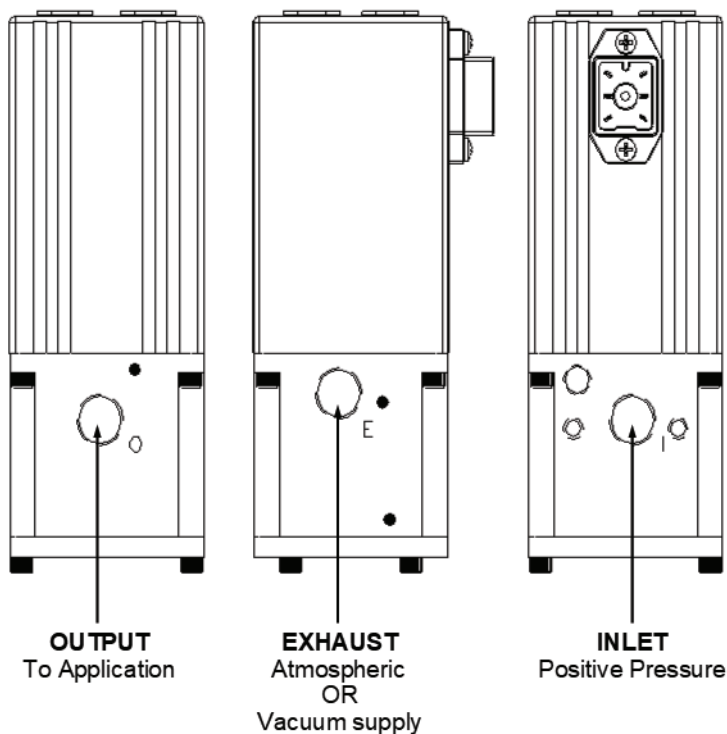
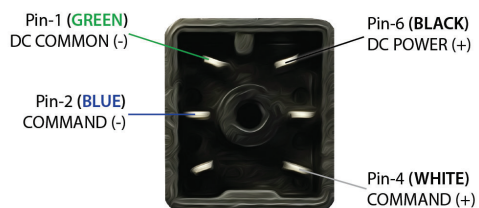

Figure 1
Figure 2
3. Connect supply pressure to the INLET PORT (I) not to exceed the rated supply pressure. (See Figure 1 and Table 1)
4. Connect the OUTPUT PORT (O) to the device being controlled.
5. **If this is a vacuum or vacuum through positive pressure unit, connect vacuum supply to the EXHAUST PORT (E). Positive pressure is required on the inlet with vacuum units. FOR ANY QUESTIONS, PLEASE CALL THE FACTORY.**
3. Figure 1 shows the location of the ISQB3 electrical connector and Figure 2 shows the connector.
3. Provide supply pressure to the INLET PORT of the ISQB3. (See Figure 1). Make sure supply pressure does not exceed the rating for the valve. (See Table 1)